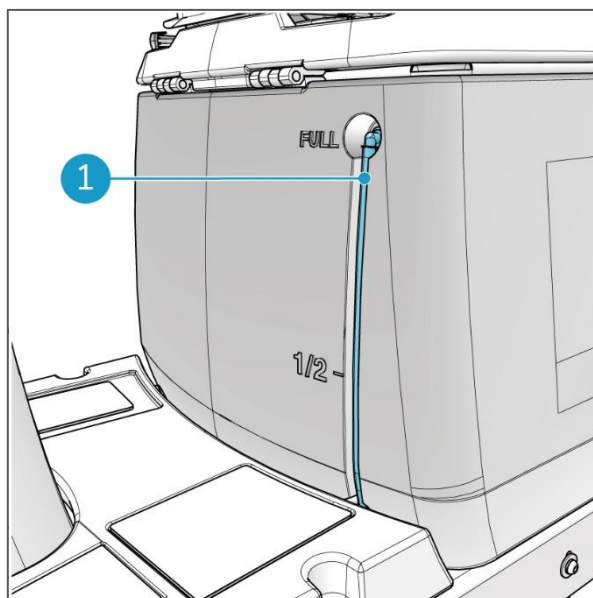

Figure 8
The optical solution level indicator is situated on the solution tank (Figure 8, pos 1) underneath the seat. This ensures that the solution level in the tank can be checked during filling of the tank. The floating switch inside the tank avoids that the pump runs dry. When it is activated, all cleaning functions of the CO-BOTIC 65™ stop. You are still able to drive it manually.